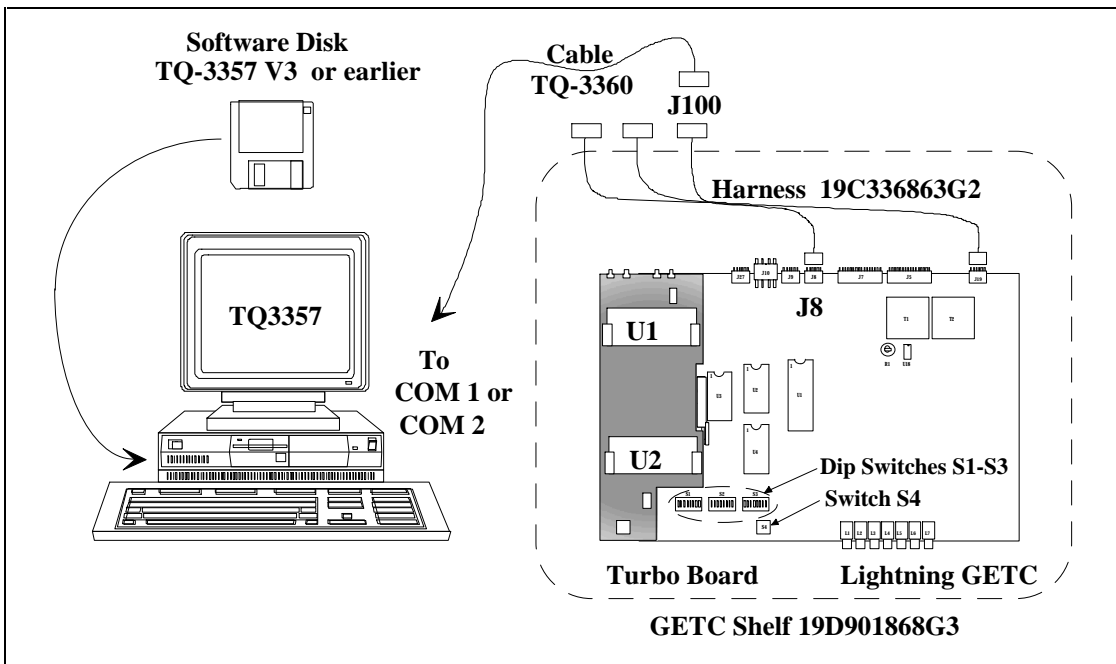

Figure 7 - System Hook-Up Using J100
1. Connect one end of the serial programming cable (TQ-3360) to the computer. Connect the other end of the serial cable to the GETC Shelf connector J100, see Figure 7.